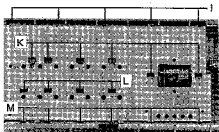

Fig. 2.8
2.9 Removing the contact pad and the keyboard PCB (Fig. 2.8)